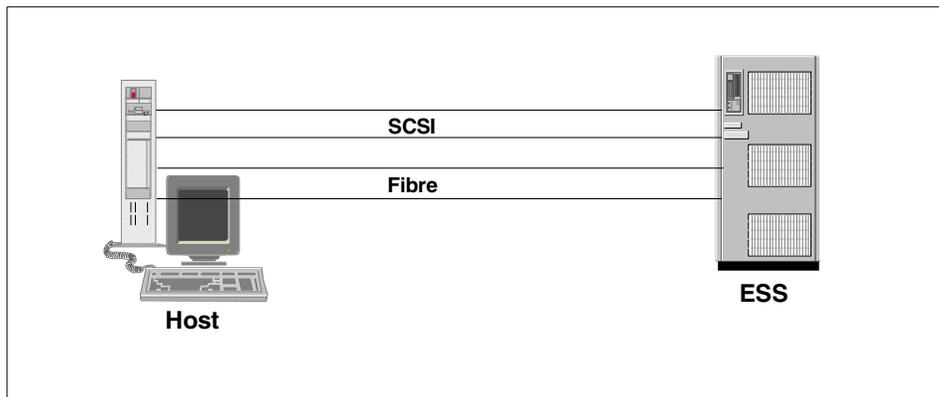

Figure 49. System setup for concurrent migration
- **Goal:** To migrate concurrently two SCSI paths to Fibre Channel (Figure 49).